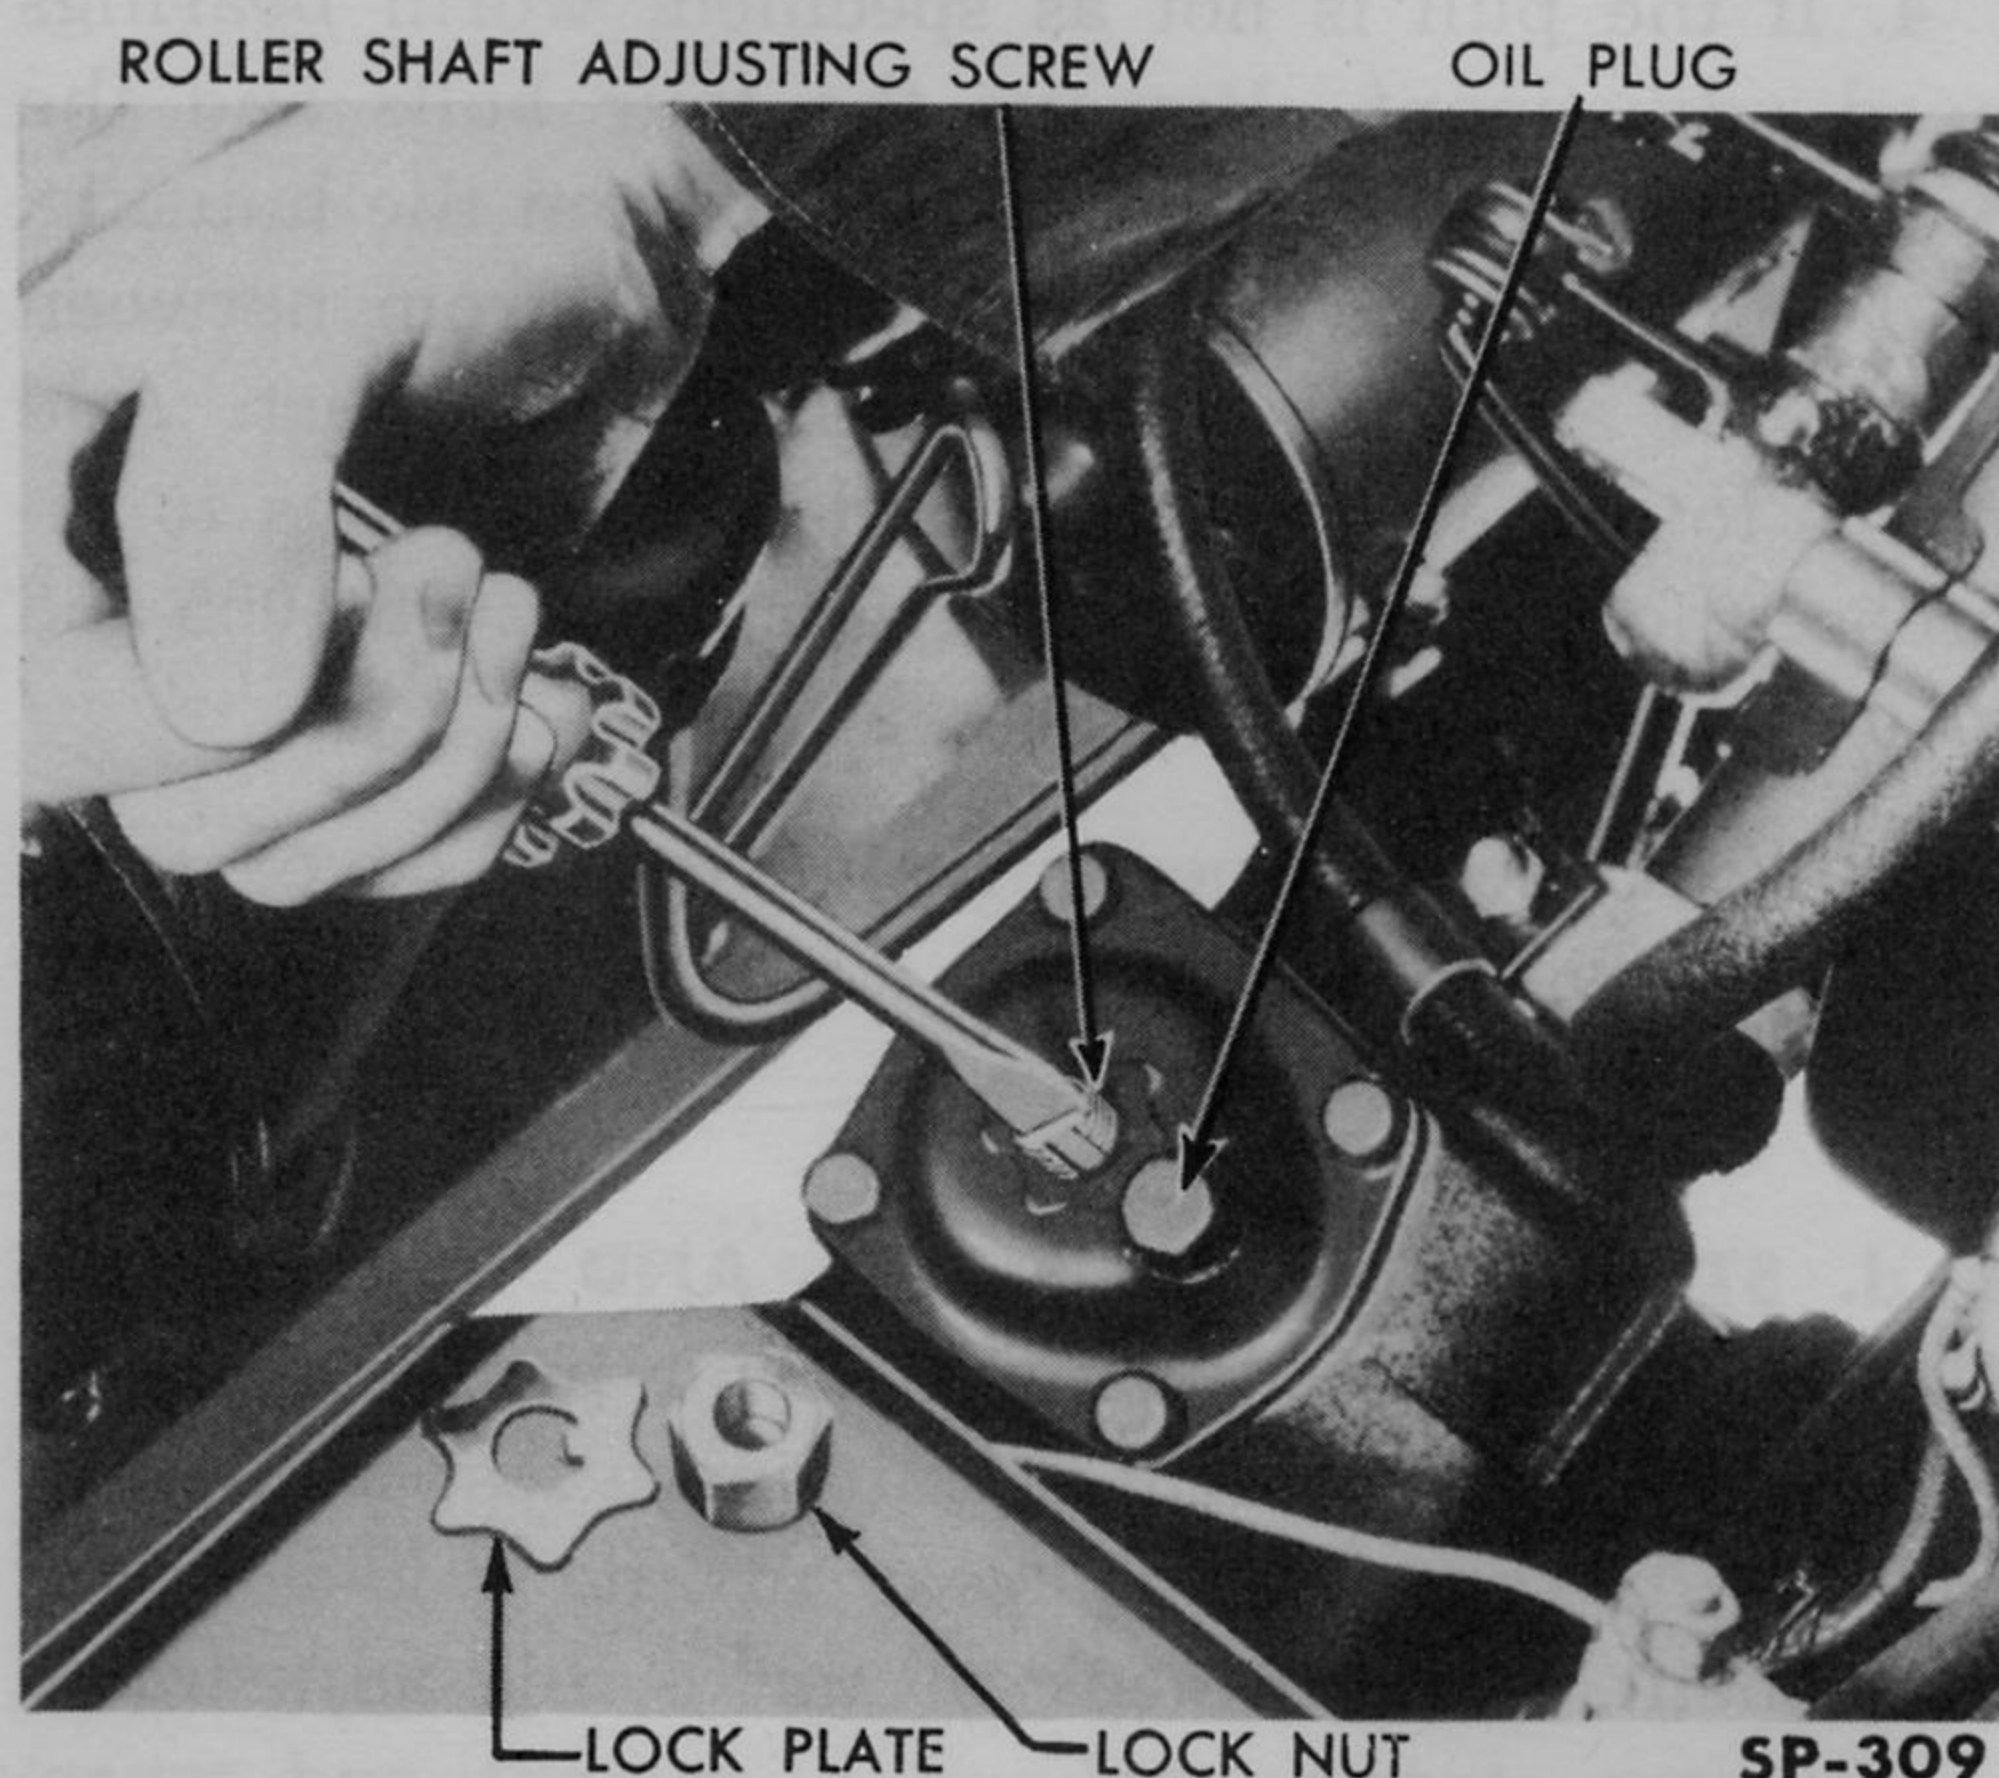

Fig. 287—Adjusting Steering Gear Shaft and Roller
4. Tighten the adjusting screw down snug with a screwdriver, turning it clockwise. Then back off the adjusting screw not more than $\frac{1}{8}$ of a turn as necessary to install the lockplate (Fig. 287). Install the lock plate and the nut on the adjusting screw.